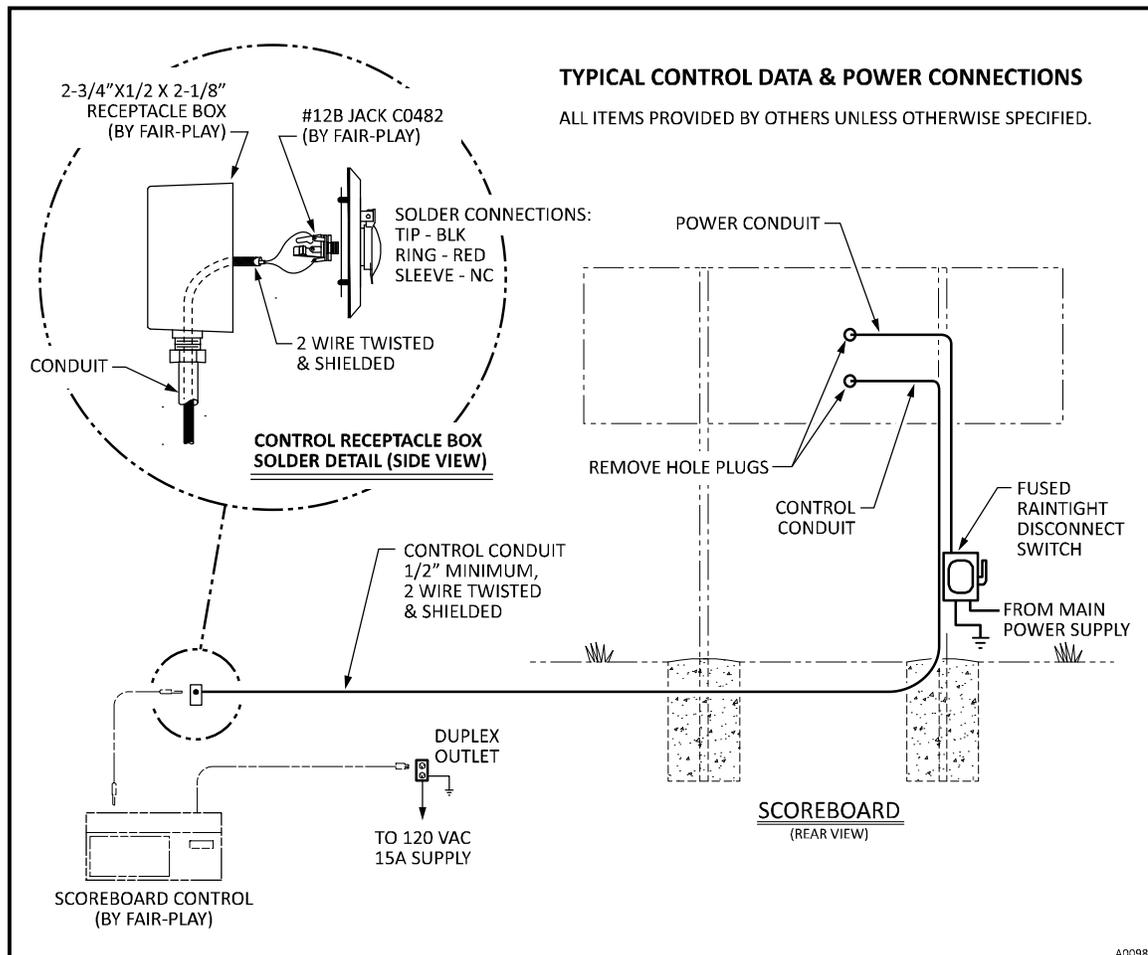

FIGURE 9 — CONTROL DATA & POWER CONDUIT ROUTING
- Refer to Figure 9 — Control Data & Power Conduit Routing below.
A fused disconnect (provided by others) is normally mounted on one of the support columns within view of the scoreboard face. Refer to Figure 9 on page 10.